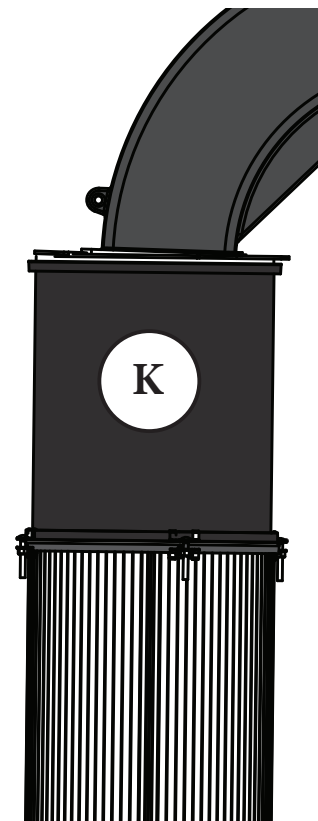

FIG. 13
Install the Stacking Sound Filter (K) [FIG. 13] by referencing the included instruction sheet: